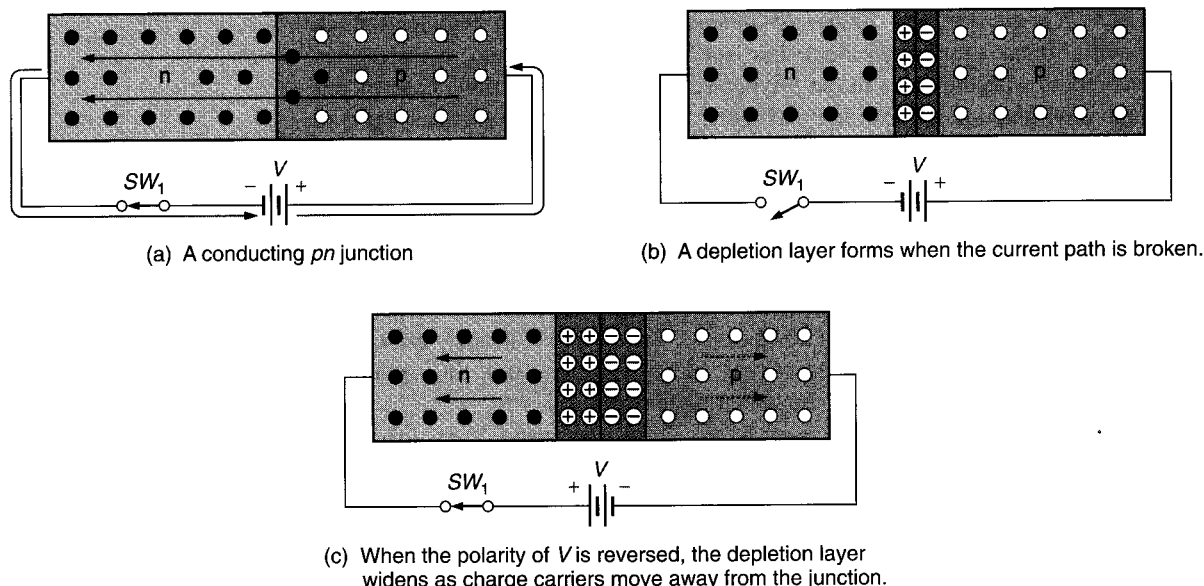

FIGURE 1.16 The effects of reverse bias.
A  $pn$  junction is *reverse biased* when the applied potential causes the  $n$ -type material to be more *positive* than the  $p$ -type material. When a  $pn$  junction is reverse biased, the depletion layer becomes wider, and junction current is reduced to almost zero. Reverse bias and its effects are illustrated in Figure 1.16. Figure 1.16a shows a junction that is forward biased. As you have already been shown, the junction is allowing current to pass with little opposition. If the biasing potential returns to zero, the depletion layer re-forms as electrons diffuse across the junction. This is illustrated in Figure 1.16b.
Figure 1.16 helps to demonstrate another point about reverse bias. During the time that the depletion layer is forming and growing, there is *still* majority carrier current in both materials. This *diffusion current* lasts only as long as it takes the depletion layer to reach its maximum width. Diffusion current is undesirable in high-frequency circuits, so special diodes have been developed for these type of circuits. (Some of these diodes are discussed in Chapter 5.)
- a. Reverse bias is achieved when the applied potential causes the *n*-type material to be more *positive* than the *p*-type material (see Figures 1.16 and 1.17).